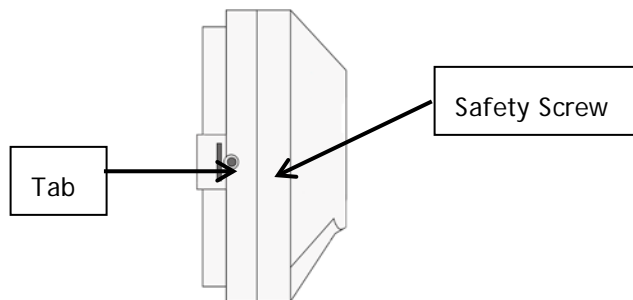

Figure 6: EcoSource Side View
Step 10 Remove the safety screw from the left side of the thermostat using the hex wrench. See Figure 6.